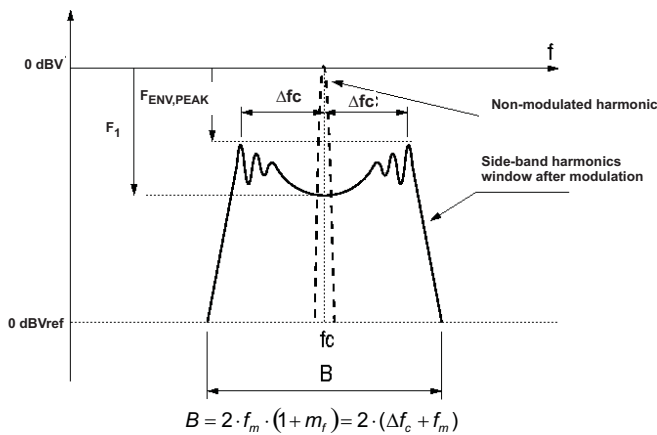
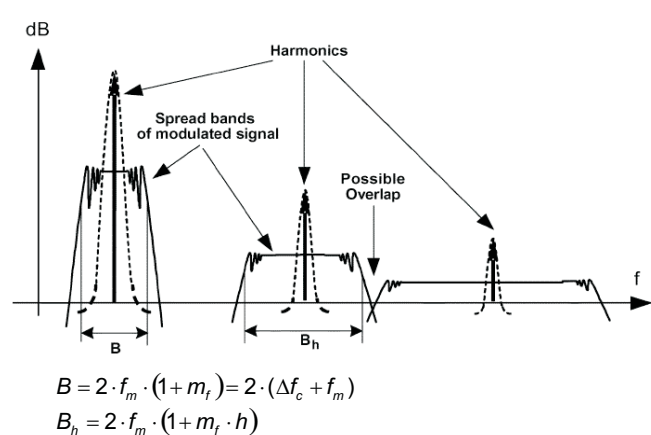

Figure 42. Spectrum of a Frequency Modulated Sin. Wave with Sinusoidal Variation in Time
Figure 43. Spread Bands of Harmonics in Modulated Square Signals ⁽¹⁾
(1) Spectrum illustrations and formulae (Figure 42 and Figure 43) copyright IEEE TRANSACTIONS ON ELECTROMAGNETIC COMPATIBILITY, VOL. 47, NO.3, AUGUST 2005.